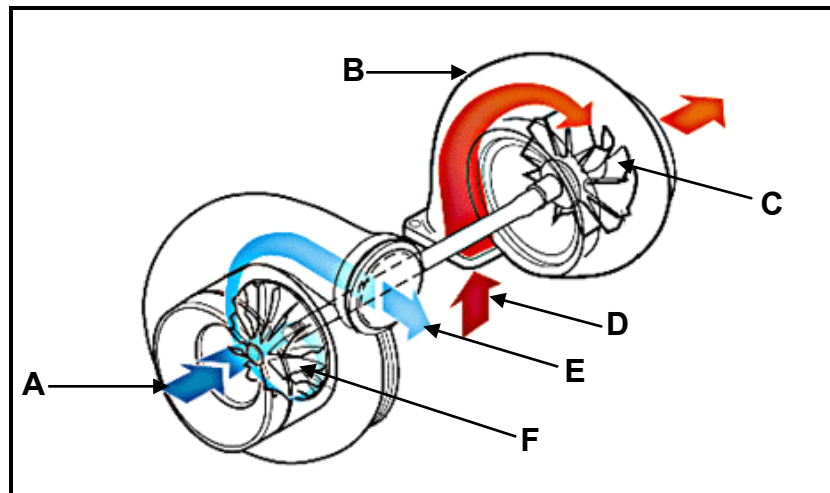

FIGURE 10.2
- 10.4 A large number of trucks make use of turbochargers to enhance their performance. FIGURE 10.2 shows a turbocharger arrangement.